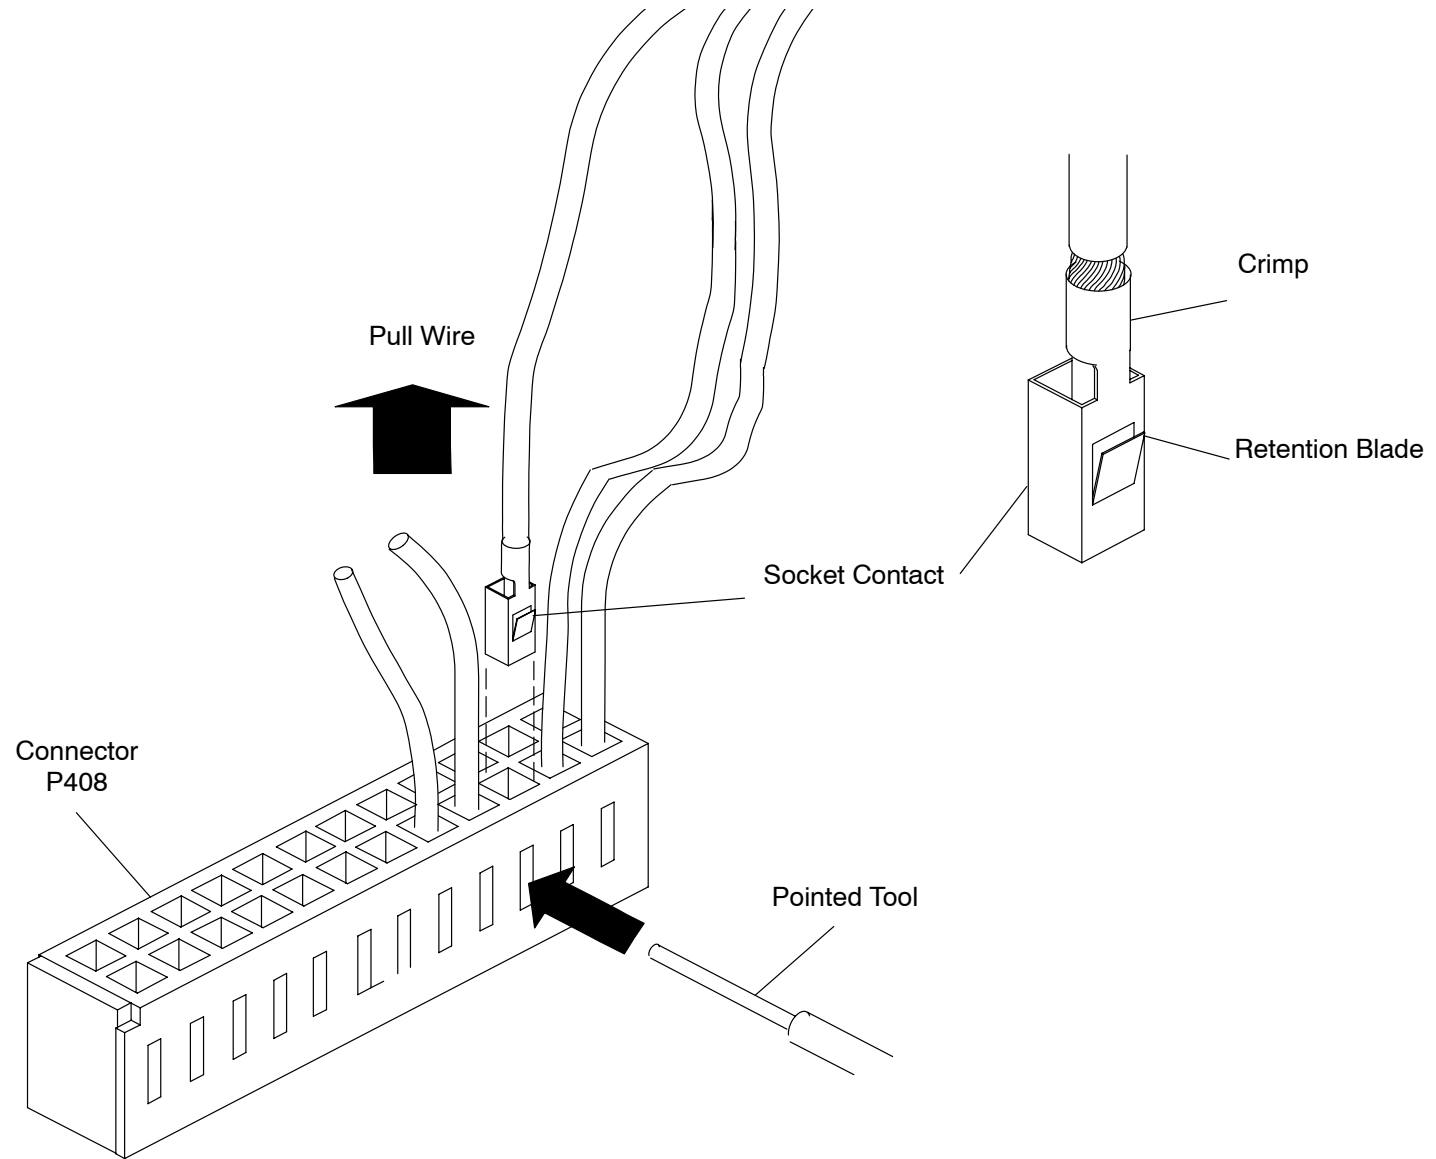

FIGURE 3 REMOVING RESOLVER PINS FROM THE CONNECTOR
6. Remove the Resolver Wires from Connector P408. To release the Socket Contact Retention Blade, press against it with the point of a small object, while pulling on the Wire until the Contact is clear of the connector shell. Refer to Figure 3.